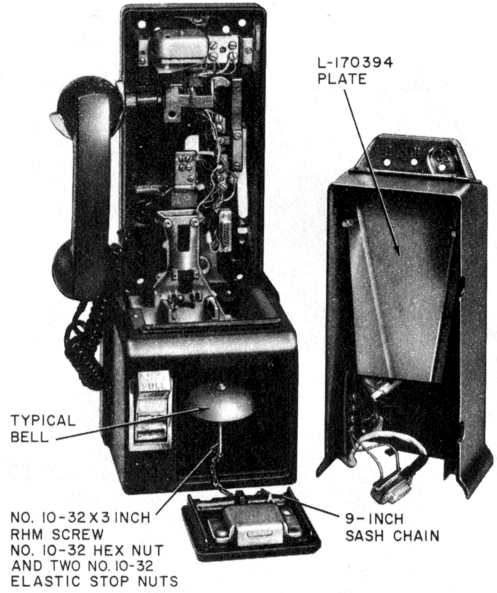

Fig. 4—Decorators Set Showing D-180573 Kit of Parts Installed
2.06 A D-180573 Kit of Parts completes the redesign of the set (Fig. 4) as follows: